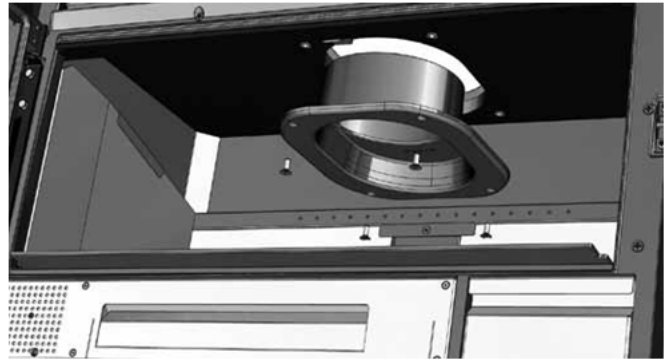

FIG. 14
4. Secure the chimney to the top again **ATTENTION! MAKE SURE THE COLLAR IS CORRECTLY ATTACHED TO THE TOP** (Fig.14).